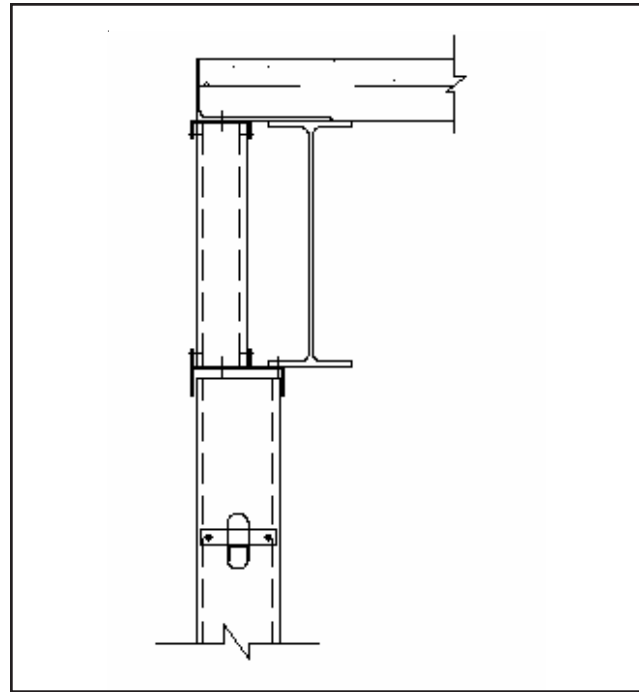

FIGURE 4
3. Detail of Almost Bypass with beam infill. Where wall stud overhangs the primary structure excessively, use infill studs to support the deflection track. See Figure 4.